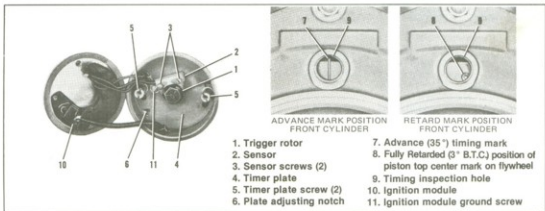

Figure 8-3. Ignition Timer and Flywheel Timing Marks
ADJUSTING SENSOR AIR GAP (See Figure 8-3)
CHECKING ADVANCE TIMING WITH STROBE TIMING LIGHT (Figure 8-3)
SETTING RETARDED TIMING WITH CIRCUIT TESTER (See Figure 8-3)
light goes on or off when piston top dead center timing mark is aligned in inspection hole (9) as shown in Figure 8-3.
6. Tighten screws (5) to 12 to 16 in-lbs torque.